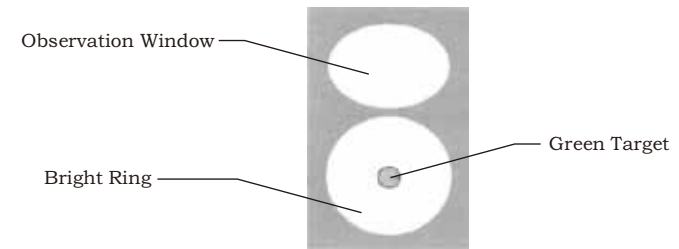

Fig. 5
3.4 Viewed from the Observation Window(as shown in Fig.5)